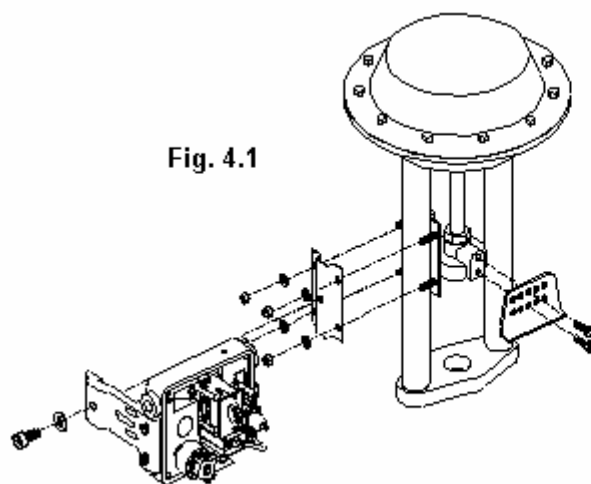

Fig. 4.1
1. Check Fig. 4.1 for correct orientation of positioner.